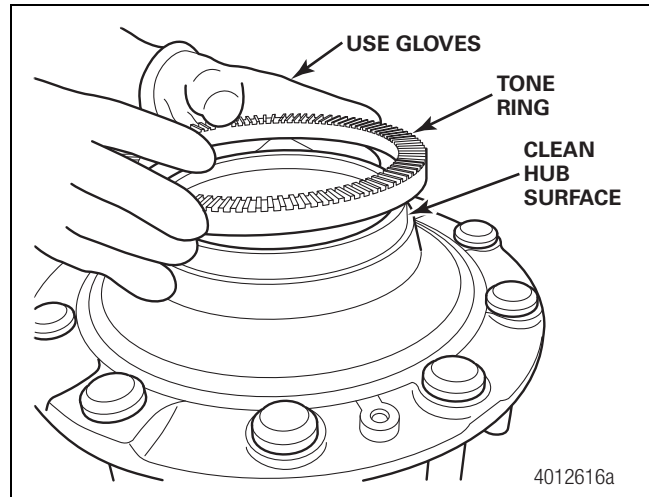

Figure 6.1
2. Heat the ABS tone ring in an appropriate oven approximately 20 minutes until the ring reaches a temperature of 350°F (177°C). Do not use a torch or flame to heat the tone ring. Do not allow the tone ring to exceed a temperature of 400°F (204°C). Using correct personal protection thermal gloves, drop the ABS tone ring onto the hub journal and press down with hand force. The tone ring must seat against the mounting seat shoulder of the hub. Figure 6.1.